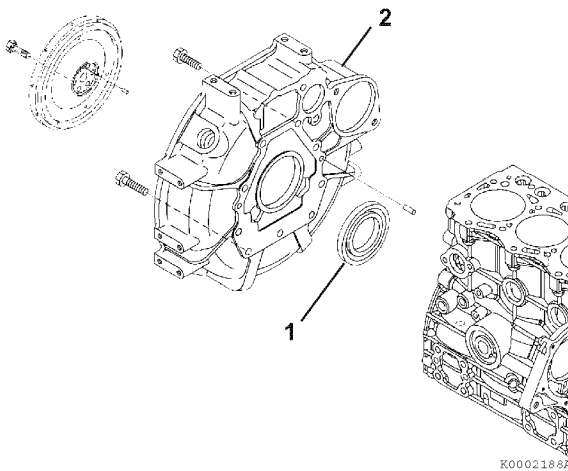

Figure 6-64
- Remove the rear oil seal (**Figure 6-64, (1)**) from the flywheel housing (**Figure 6-64, (2)**).
- Apply a continuous bead of ThreeBond Liquid Gasket No. 1212F, YANMAR Part No. 977770-1212F to the outside diameter of a new oil seal (**Figure 6-64, (1)**).
- Install a new seal in the flywheel housing (**Figure 6-64, (2)**) with the lip facing in away from the flywheel. Apply lithium grease to the lip of the seal.